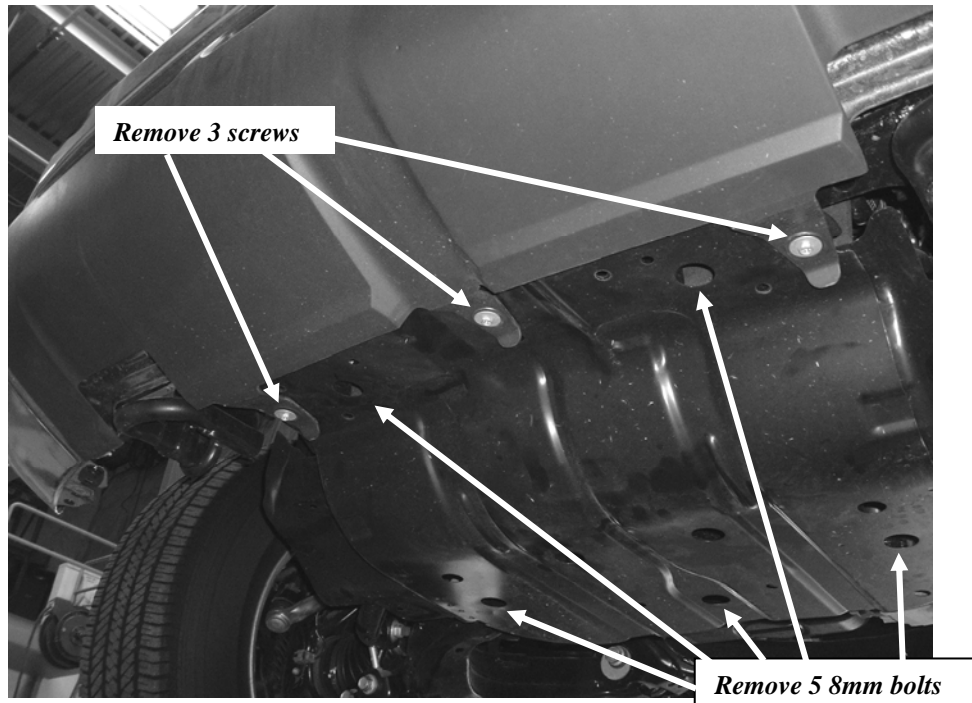

Figure 6 Bumper bottom center and skid pan
8. Remove the three(3) self-tapping screws from the bottom of the center bumper insert. **Figure 6**
9. Remove the skid plate by removing five(5) 8mm bolts. **Figure 6**